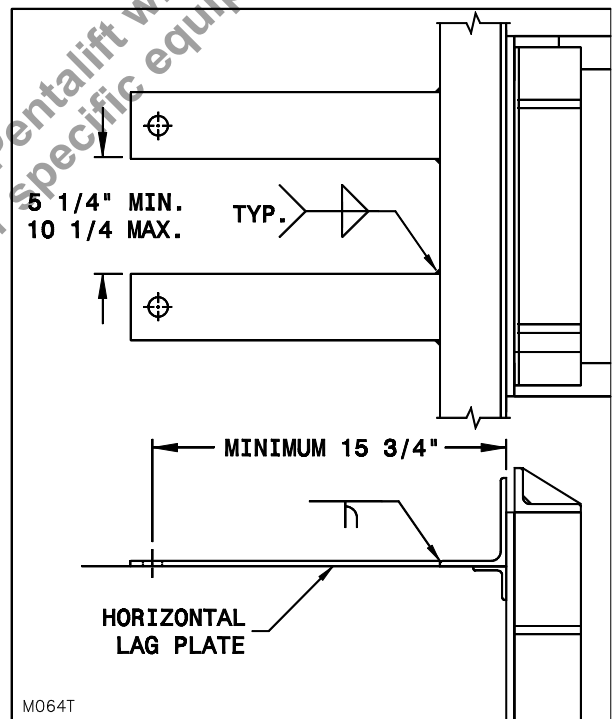

Figure 7: Horizontal Lag Plate for Pour-In Dock
h) Because there is no gap between the front angle of the dock leveler and the dock leveler pit floor, the horizontal lag plates and restraint back plate must both be welded to the dock leveler front angle. Position the horizontal lag plates centered directly behind and perpendicular to the back plate of the restraint, butted up against the front angle of the dock leveler. They must be parallel to each other; not more than 10 1/4" apart and not less than 5 1/4" apart. See "Figure 7: Horizontal Lag Plate for Pour-In Dock" on page 12.
k) Position the horizontal lag plates into the position as noted in item 2.h).
l) Weld the full width of the horizontal lag plates as well as the vertical depth of the horizontal lag plates to the front angle of the dock leveler. See "Figure 7: Horizontal Lag Plate for Pour-In Dock" on page 12.